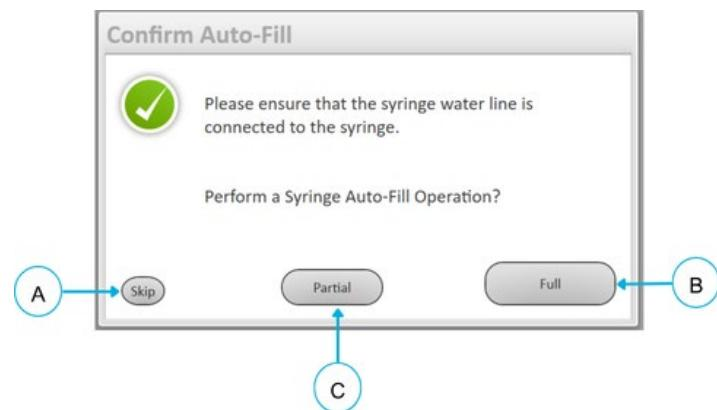

Figure 11-11: Perform Syringe Auto-Refill Operation Screen
- The Generator displays: “Perform a syringe autofill operation?” (Figure 11-11)
■ **NOTE:** If an additional needle tune is performed and the Syringe is already partially filled with Sterile Water, select **[Partial] (C)** to fully fill Syringe. If the Syringe is full, select **[Skip] (A)** and no further action is necessary (see **Figure 11-11**).